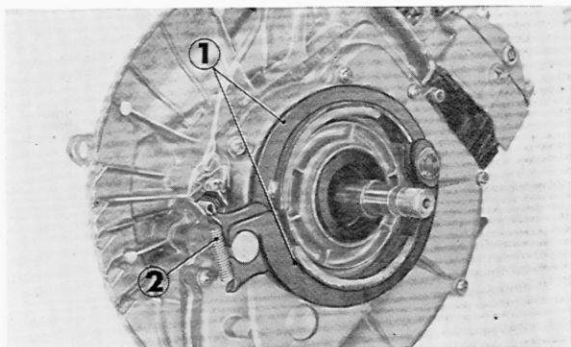

Fig. 2-35 ① Rear brake shoe
④ Primary drive sprocket
⑤ Primary driven sprocket
2. Remove rear brake shoes (Fig. 2-35)